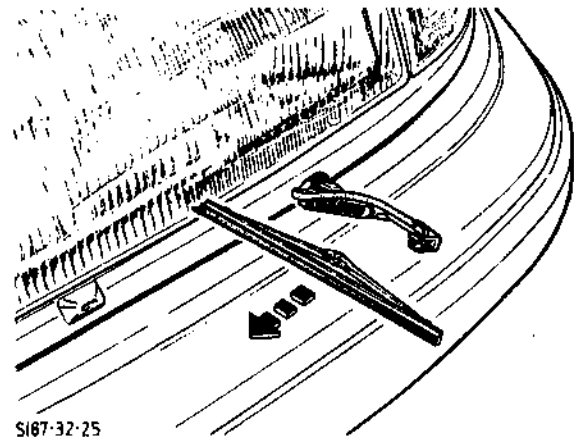

Fig.1. Headlamp wiper blade.
2. Hold the wiper arm and lever the wiper blade, Fig.1, out of the mounting (on the wiper arm).